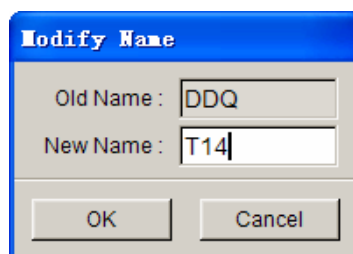

Figure 8.2.37 Modify Material Name dialog box
- **RENAME:** Enable the user to change the material name. The MODIFY NAME dialog box as shown in Figure 8.2.37 is displayed. The user may enter the new name in the edit box and click the OK button to accept the modification.